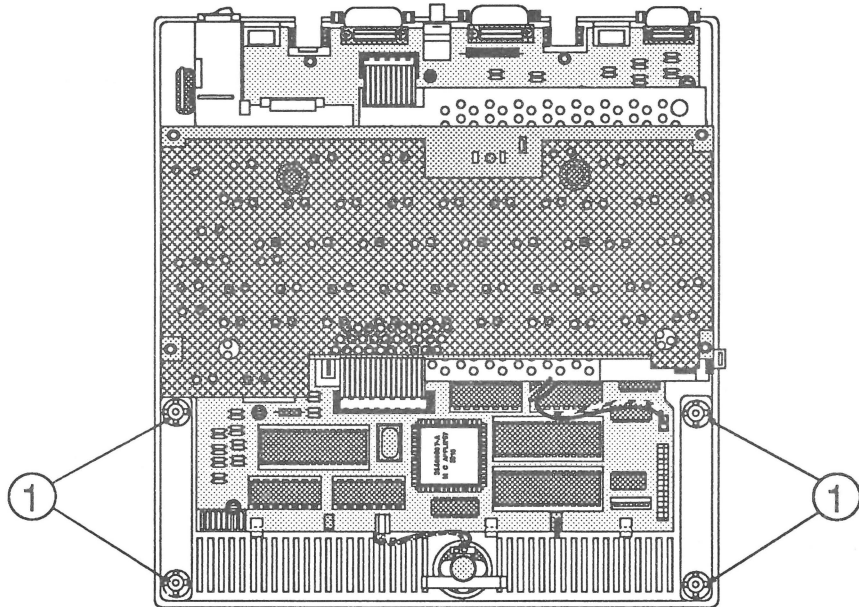

FIGURE 4
2. Place the keyboard in position on its four support posts (Figure 4, #1).